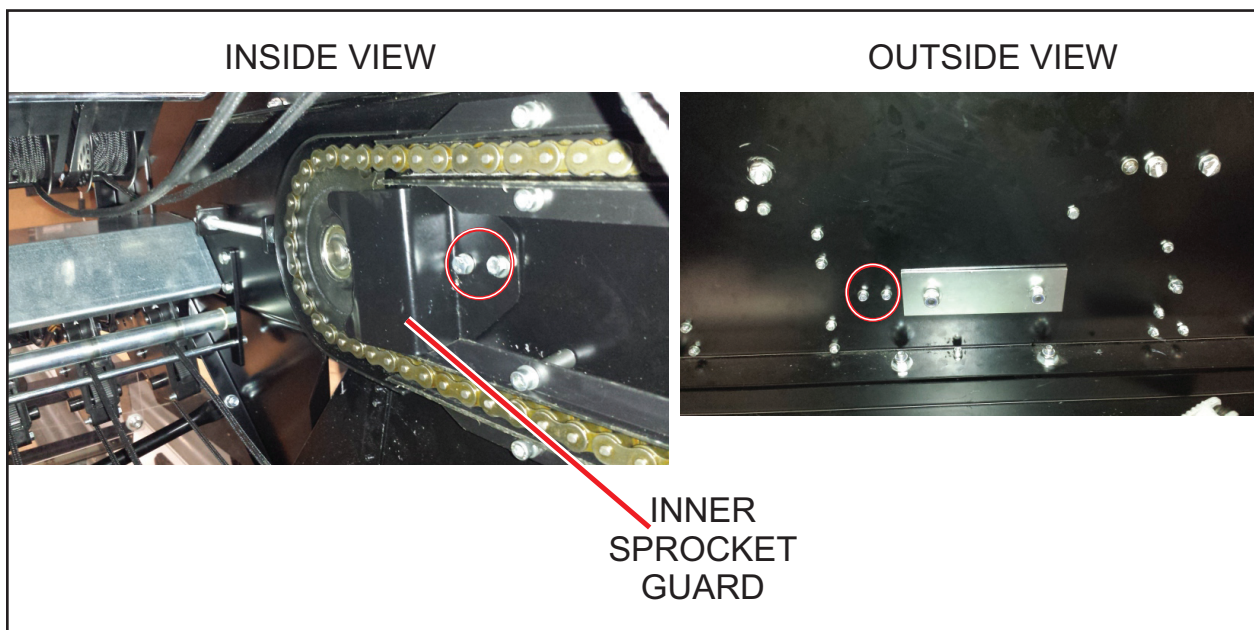

Figure 3
24. Reinstall the inner sprocket guard on both sides of the machine. Refer to *Figure 3*.